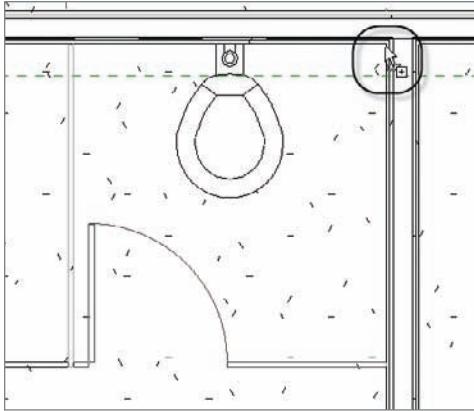

FIGURE 9.41 The two toilets in place
10. Place the stall in the model (see Figure 9.41).